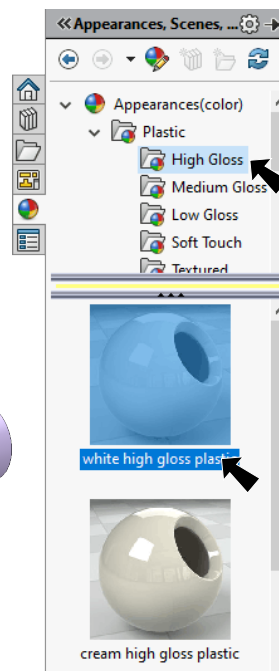

Fig. 19
Step 2. In the Appearances Task pane, expand **Plastic**, click **High Gloss** and in the lower pane select **white high gloss plastic**, Fig. 19.